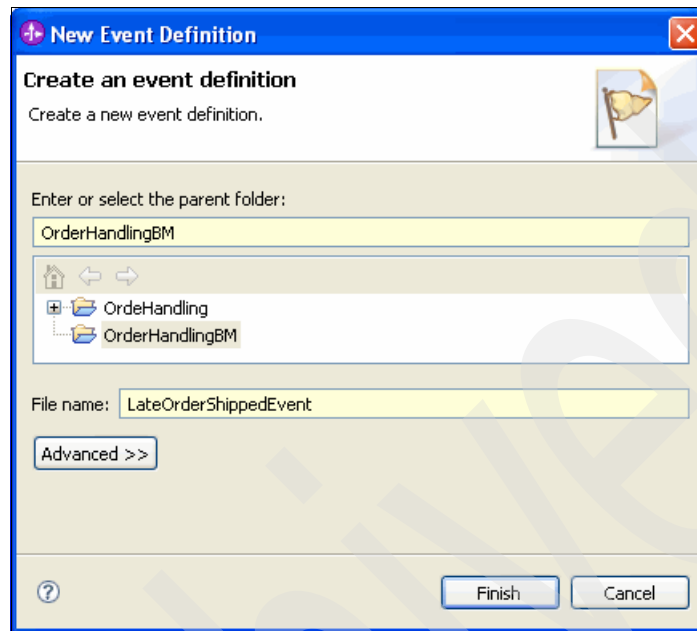

Figure 8-85 Setting the new Common Base Event file name
33. In the New Event Definition window (Figure 8-85), for File name, type LateOrderShippedEvent and click **Finish**.